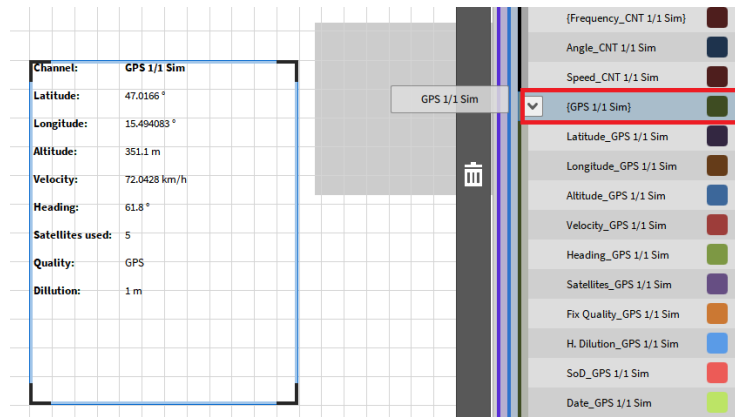

Figure 5-100: Drag and drop the GPS channel to the measurement screen
*The channel *GPS* can be dragged and dropped directly from the Channel List to the measurement screen. If this is performed, the current value of the channels *Latitude*, *Longitude*, *Altitude*, *Velocity*, *Heading*, *Satellites used*, *Quality* and *Dilution* will be displayed (see Figure 5-100).